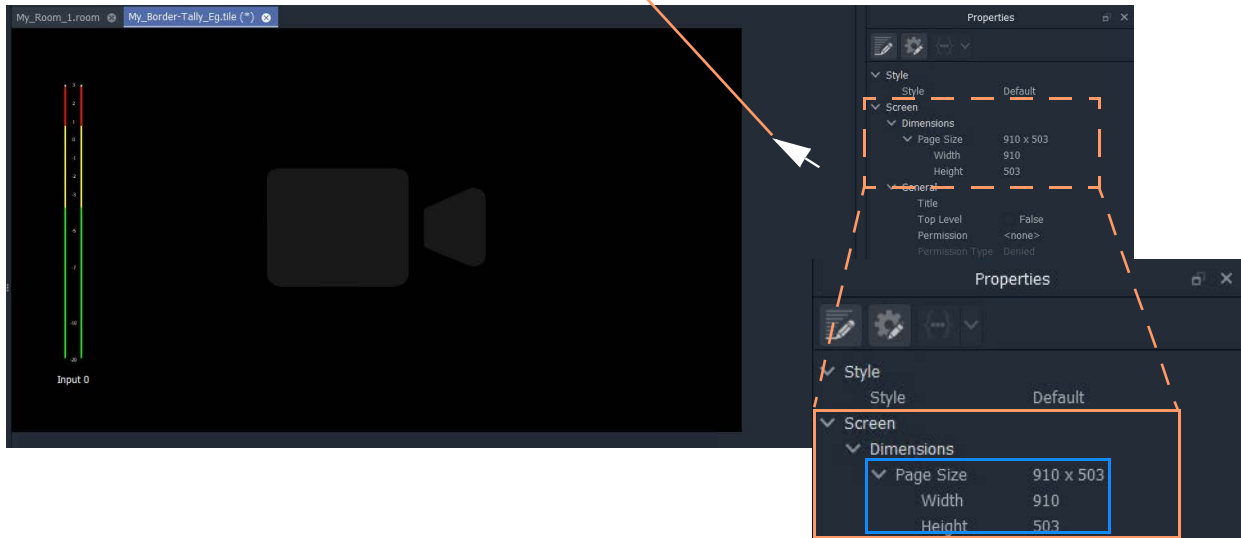

Fig. 16-25: Tile Size in Properties
- 3 Click off the Tile but in the **Tile Editor** stage area. See Figure 16-25.
In the example in Figure 16-25, the **Custom Tile**'s dimensions are: